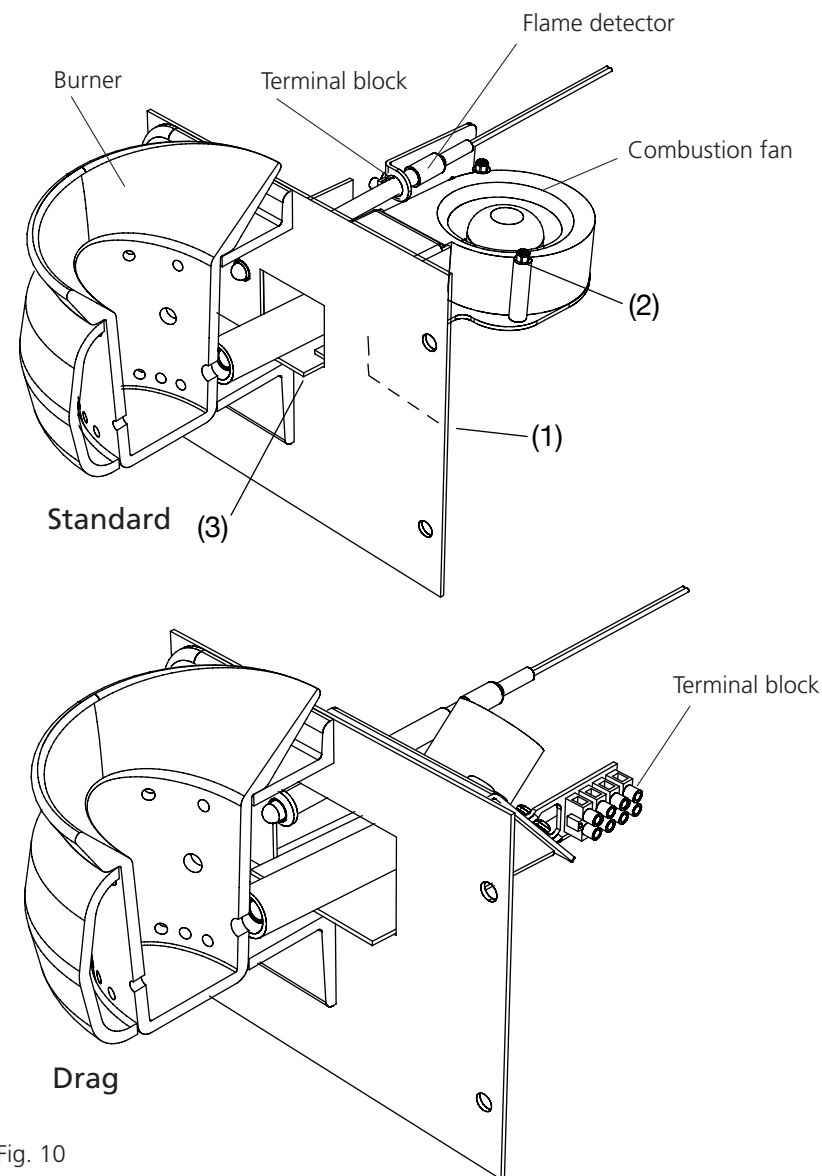

Fig. 10
2. Remove the four screws holding the burner flange to the stove wall (fig 10).